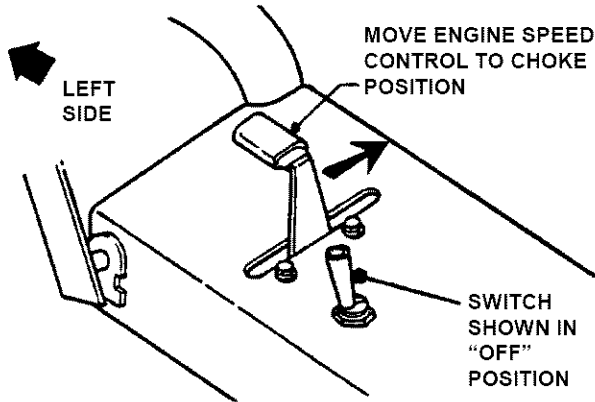

FIGURE 3.6
5. Move Engine Speed Control Lever to the **CHOKE** position. See Figure 3.6.